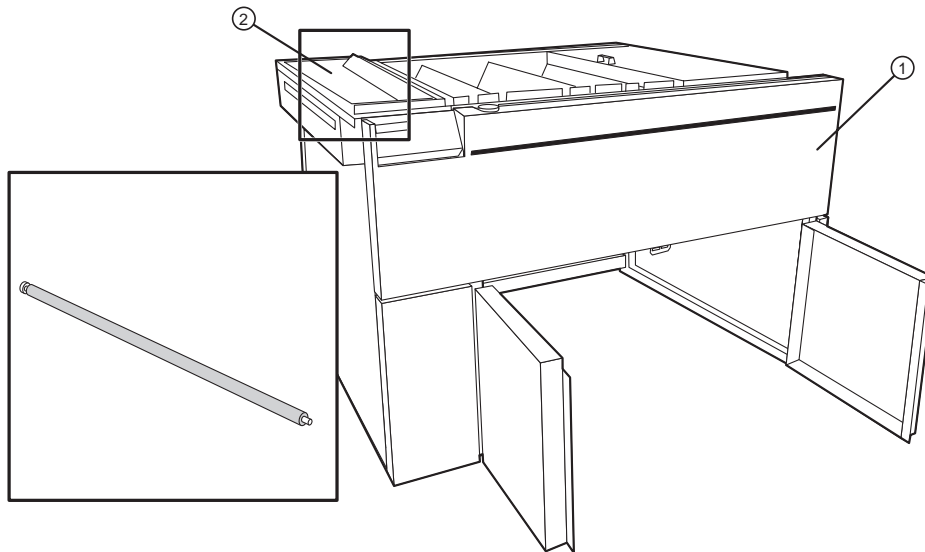

Figure 1-23 Replacing the roller.
①—Developer. ②—Fixer. ③—Wash.
4. Replace the roller and bearing at the top front of the engine. Refer to Figure 1-23.